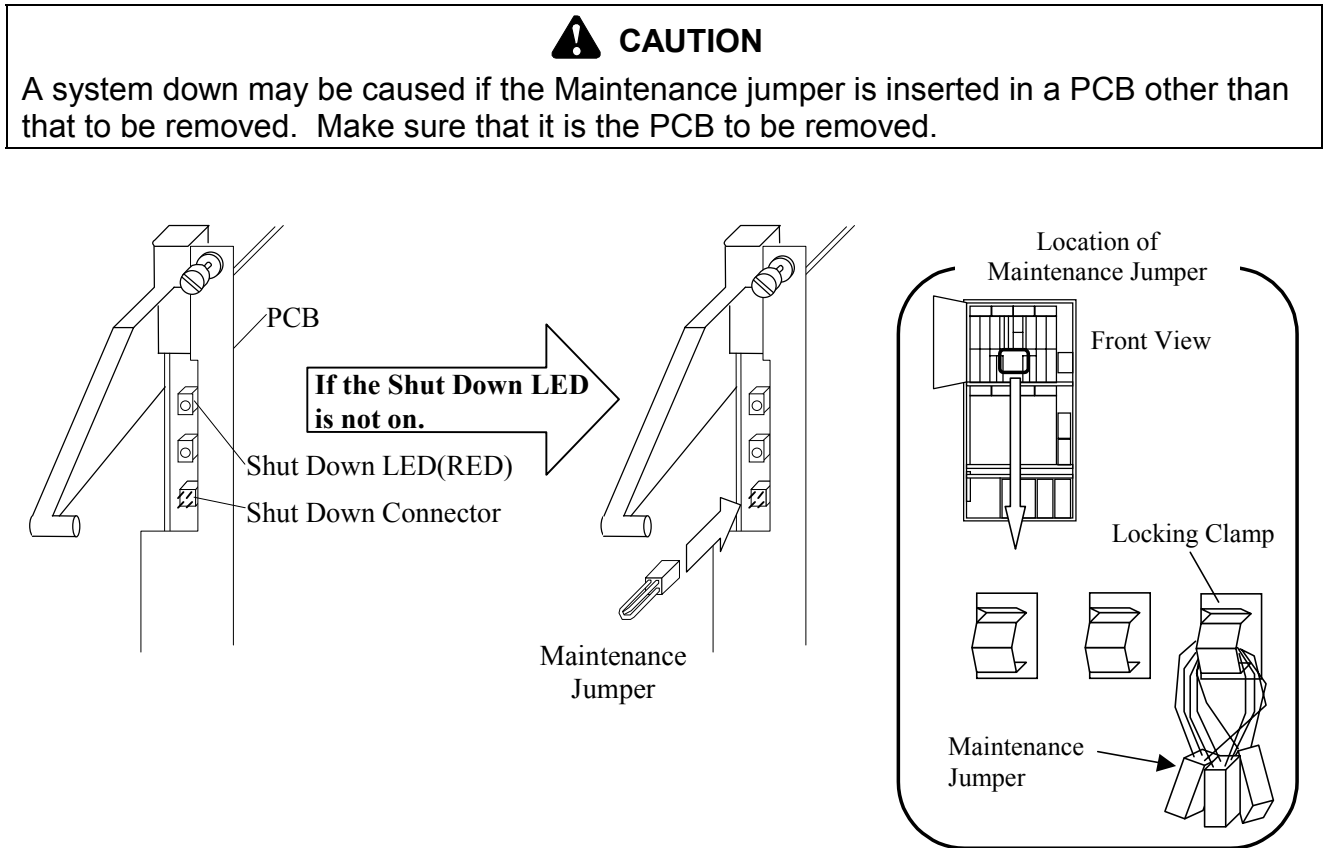

Fig. 4.3.1-1 Shut Down LED
- a. Confirm that Shut Down LED is on (Fig. 4.3.1-1). If the LED is not on, connect the Maintenance Jumper to the Shut Down Connector.
- Remove the bracket and cable clamp referring to Fig 4.3.1-2.
- Disconnect the optical fibre cables and remove the holder referring to Fig 4.3.1-3.